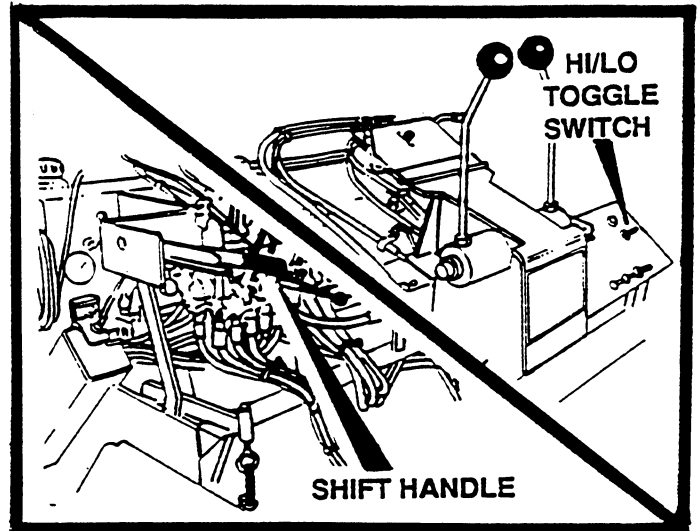

FIGURE 21
- E. Always pave in Low range. See Figure 21.
2. In figure 21 shows two methods of shifting the paver from HI to LOW gear. High and Low gear, cable is used with the two speed transmission, push down to low gear, pull up to high gear. High and Low toggle, is a toggle switch used with the Torque Hub, pull toggle switch down to low and push up to high gear. When the paver is equipped with torque hub, a high gear indicator light will be on steady, indicating that paver is in high gear.